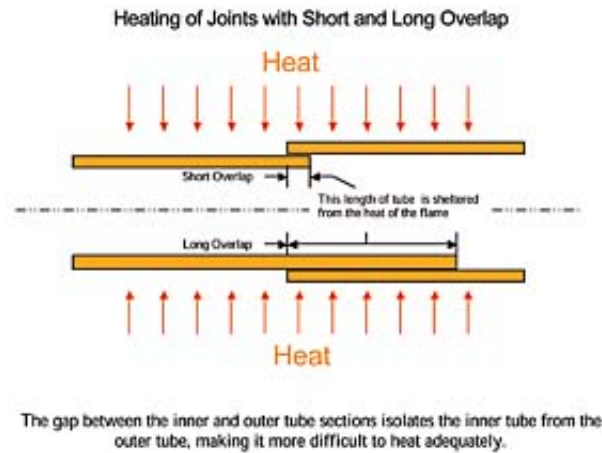

Figure 1. Heating of joints with short and long overlap.
- 1) The longer the overlap is, the further the braze metal has to flow, and the more opportunity there is to trap gas, which causes voids in the joint. Further, as the diameter becomes larger, the overlap increases, and proper heating of the joint becomes progressively more difficult because more of the tube is protected from the heat of the flame (see Figure 1).